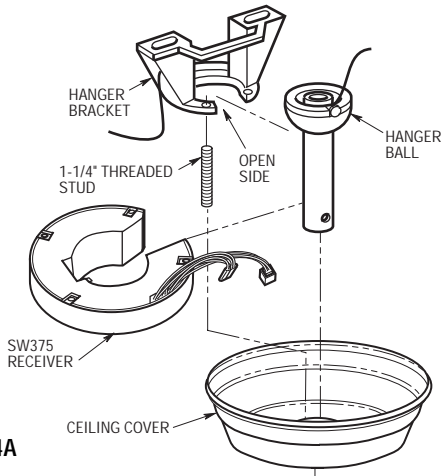

Figure 14A
- 20. Screw two 1-1/4" threaded studs (supplied) into the tapped holes in the hanger bracket (Figure 14A).
- 21. Position the receiver by passing the opening in the receiver over the hanger pipe (Figure 14A).
- 24. Fold and position the wires into the space above the hanger ball and into the outlet box (Figure 14A).